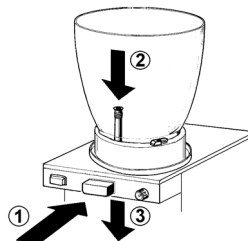

figure 3
- 3 Push (1) the dispensing button and insert (2) the pinch tube into its seat in the evaporator bottom.
Lightly pull (3) the pinch tube end downwards till it is well arranged (see figure 3).